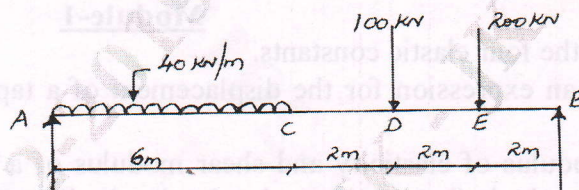

Fig.Q.5(c)
- c. Sketch SFD and BMD for the beam shown in Fig.Q.5(c) indicating the salient points. (12 Marks)